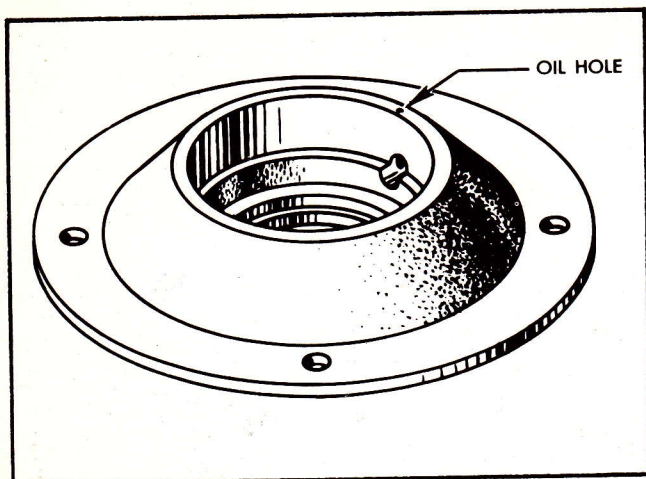

Figure No. 20
1. The bearing flange (See Figure No. 20) houses a bearing oil seal. If oil leaks around the end of the crankshaft, it indicates that this seal must be replaced, using TL-935, oil seal driver.